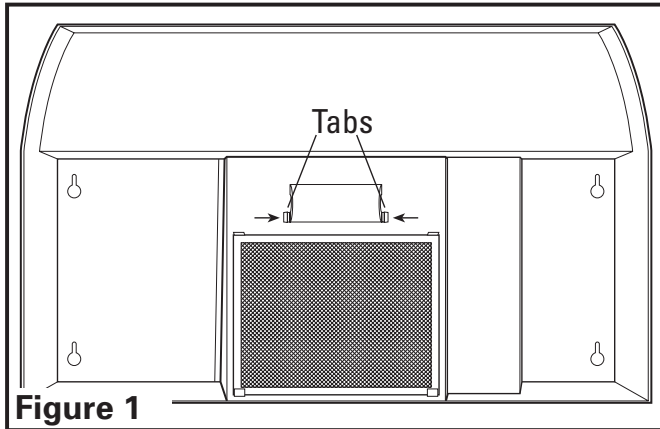

Figure 1
- Remove lamp cover by squeezing the two tabs together (**Figure 1**).